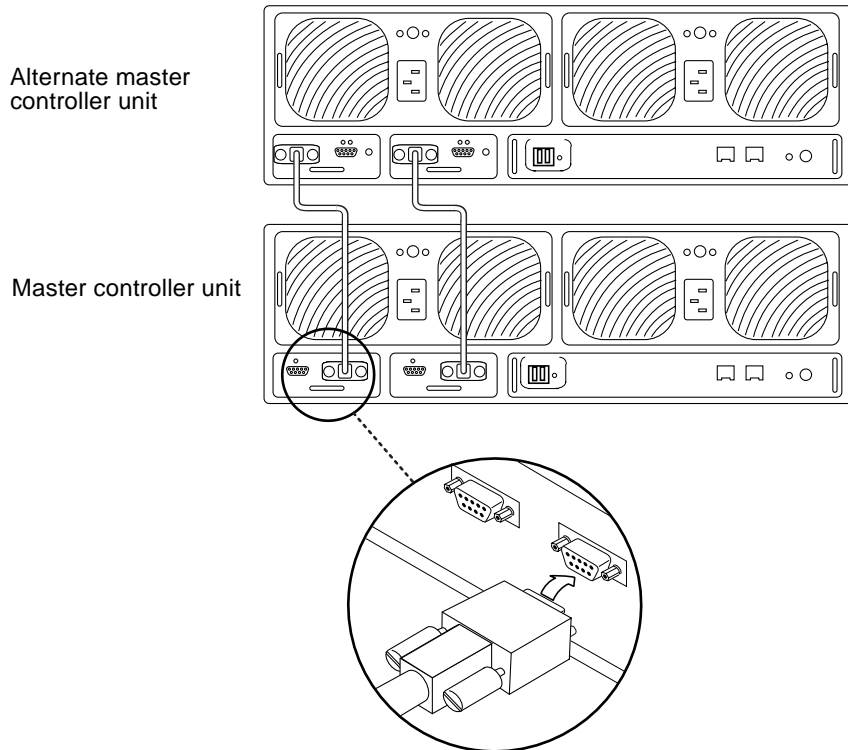

FIGURE 6-5 Connecting the Interconnect Cables
9. Partner group only: Connect the interconnect cables to the interconnect cards as shown in FIGURE 6-5.